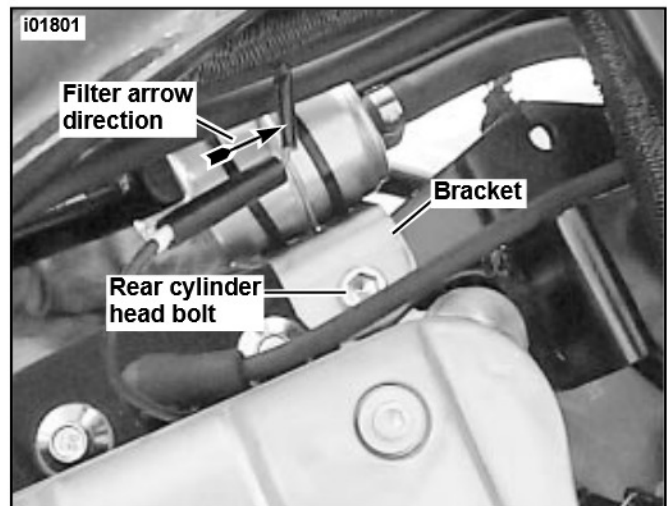

Figure 4. Clamp Mounting
- See Figure 4. Remove the rear cylinder head bolt and washer. Discard washer.
13. See Figure 4. Remove the rear cylinder head bolt and washer. Discard washer.